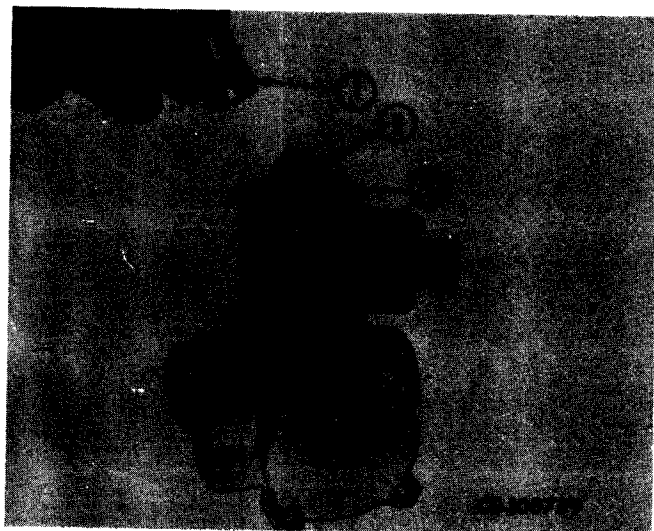

Figure 14-6
Remove adapter (1, Fig. 14-6), seal (2) and nut (3).
Install nut (3, Fig. 14-6), seal (2) and adapter (1).